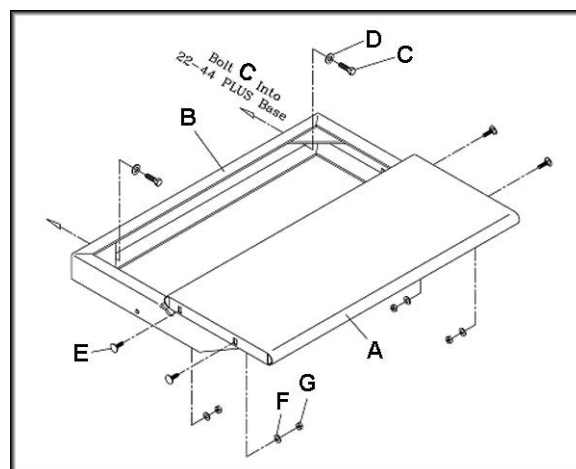

Figure 6
Attach the handwheel (A, Figure 6) to the height adjustment screw, and tighten the two set screws with the 4mm hex wrench supplied.
- 1. Bolt the base bracket (B, Figure 6) to the sander base with two 3/8"-16 x 1" hex head cap screws (C) and two 3/8" flat washers (D). Tighten the screws.
- 2. Mount the table (A) to the base bracket (B) with four 1/4"-20 x 3/4" carriage bolts (E), four 1/4" flat washers (F) and four 1/4" hex nuts (G). **Note:** Leave the carriage bolts loose for now.
- 3. Place a straight edge on the conveyor bed and extending out over the extension table. Raise or lower the extension table until it is level with, or slightly below, the surface of the conveyor belt. Tighten the hex nuts (G).